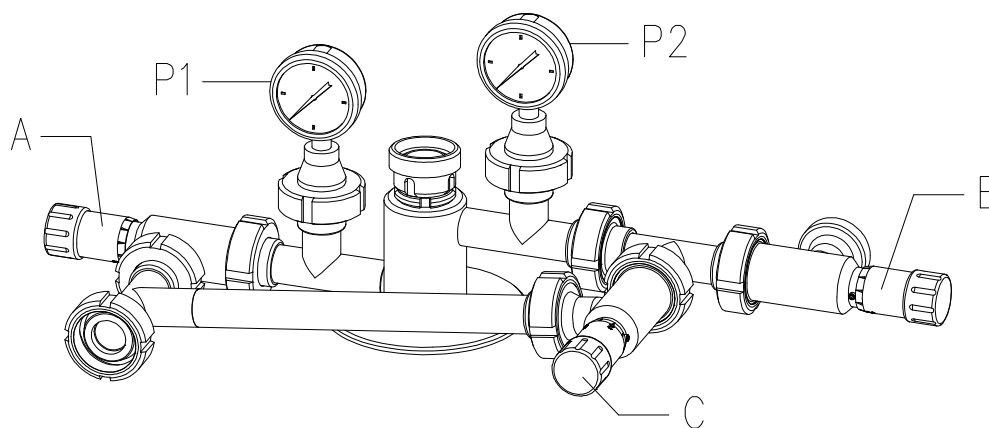

Figure 8.1
It's important to avoid air mixing with liquid, so it's necessary to immerse the centripetal pump into the rotating liquid and to have a counterpressure in outlet pipes. This is obtained by acting on the regulating valves (A, B, C in figure 8.1) and on the regulator (RPL in figure 7.2) of the constant pressure valve (if present).
Valve (A in figure 8.1) regulates the outlet pressure of skimmed milk (the manometer P1, shows the counter pressure at the outlet of the skim centripetal pump), while valve (B) permit to adjust the flow rate and pressure of the cream (the manometer P2, shows the counter pressure at the outlet of the cream centripetal pump). Valve C regulate the fat content of the milk (standardization). By opening this valve, some of the separated cream can be added to the skimmed milk before it leaves the separator. The remixing circuit with micrometric valve (C) is optional.